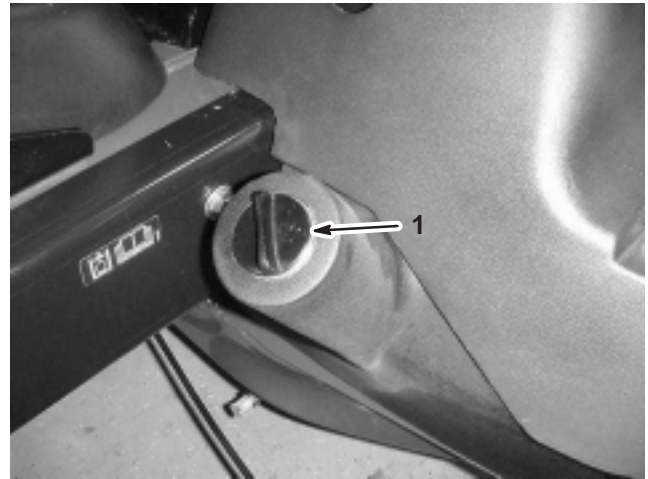

Figure 5
2. Clean the area around the filler neck and cap of the hydraulic tank (Fig. 5). Remove the cap from the filler neck.